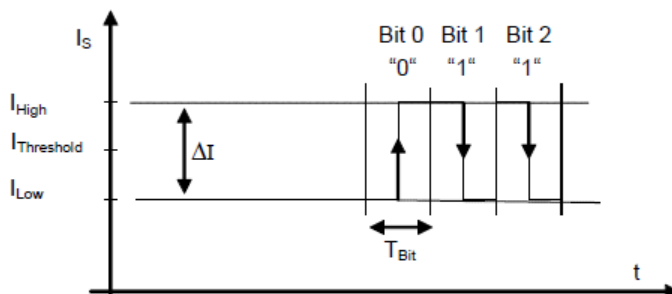

Figure 18 · Bit encoding by Current Modulation
- 16-bit data and 4-bit message ID (configuration bit = 1, Fig. 18)